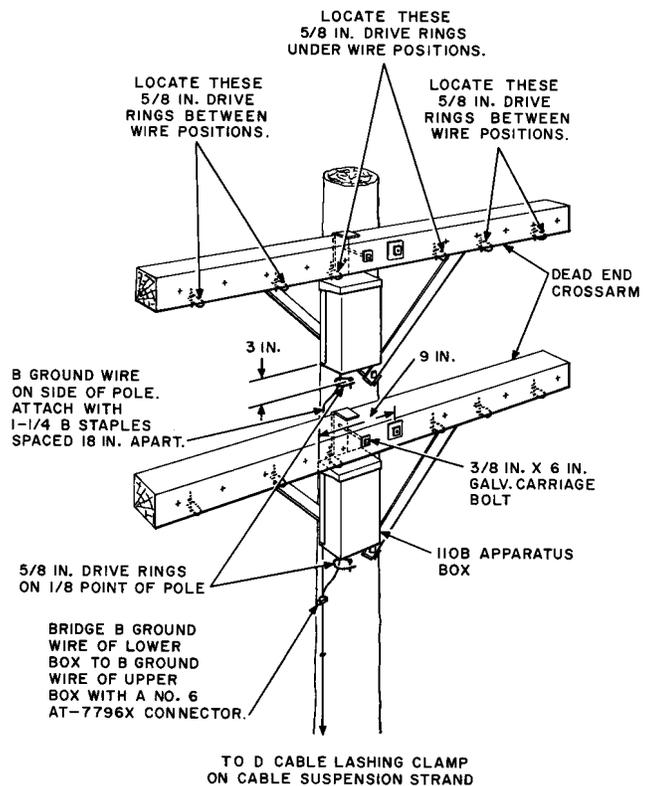

Fig. 6—Installing 110B Apparatus Box at Open Wire and Cable Junction
5.01 Open Wire and Cable Junctions: Mount a 110B Apparatus Box on each crossarm whose open wire circuits require suppression. Place B Ground Wire and wiring rings at the time of mounting the apparatus box. Mounting details are shown in Fig. 6.